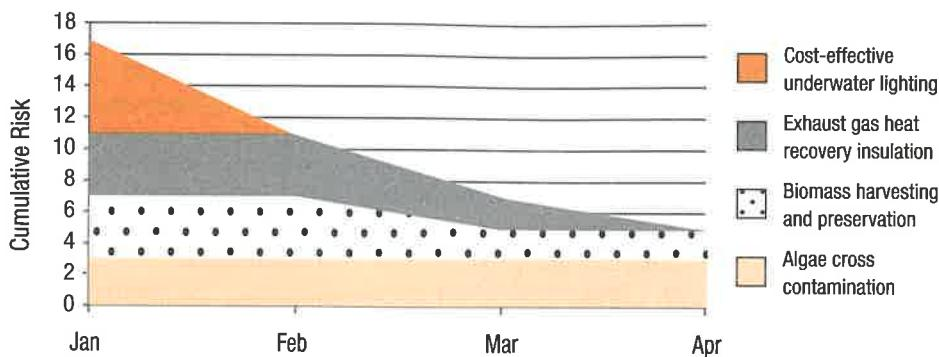

FIGURE 11.7 *Algae Project Risk Profile*
- Risk burndown charts may be used for planning, managing, and controlling risk. These charts allow stakeholders to easily see a risk profile on a project. Risk burndown graphs quickly inform stakeholders whether the threats are moving in the right direction (downward), or if they are escalating. See the example in figure 11.7 in which a project manager is building a container-based algae production unit to capture carbon dioxide (CO₂) emissions. Figure 11.7 shows that a spike in January to explore